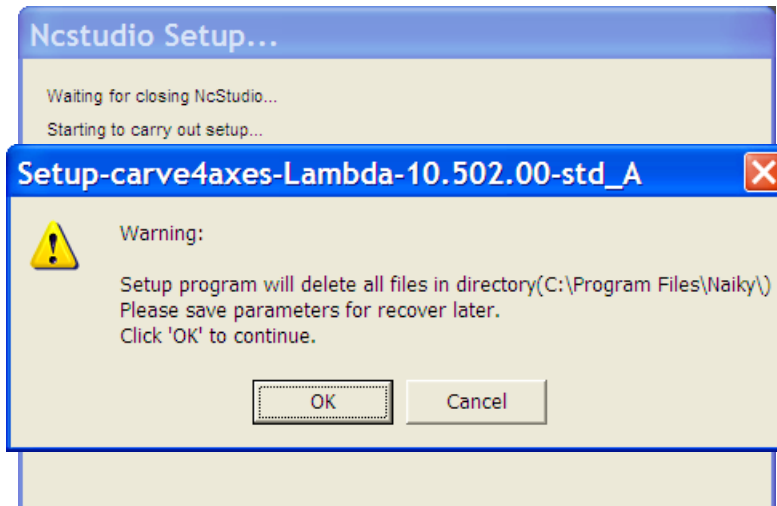

Fig. 1-2 Warning to delete previous files
- 3) Select [ENGLISH] to begin the installation. To avoid interference of old version software to the installation of the new one, the system prompts that the setup will delete all files of the old version software, see Fig. 1-2.